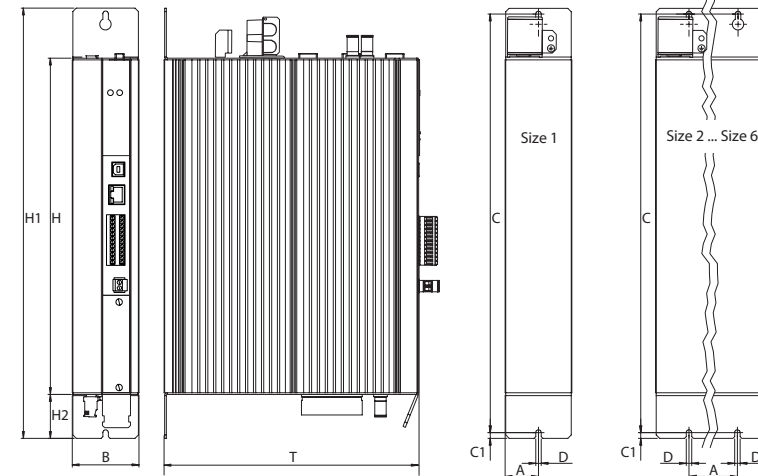
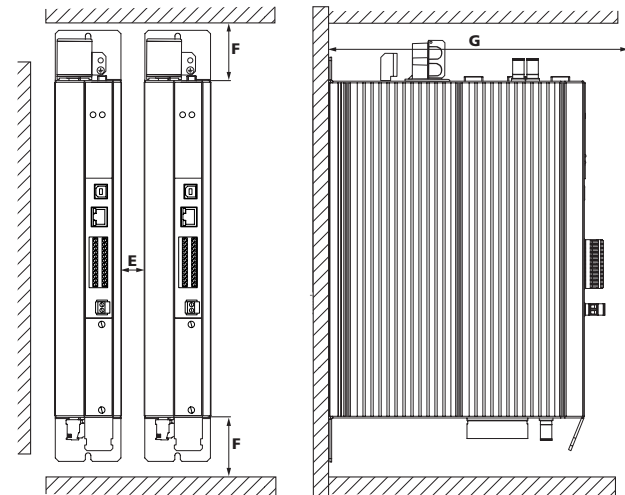

Figure 3.10 Dimensional drawing, air cooling housing variant
Figure 3.11 Mounting clearances, air cooling housing variant
2.	<p>Mark out the position of the tapped holes on the backing plate.</p> <p>Drill holes in the backing plate and cut a thread for each fixing screw in the backing plate . Pay attention to the bending radius of the connection cables!</p> <p>For hole spacing and dimensional drawings see Table 3.1, Figure 3.10 and Figure 3.11.</p>